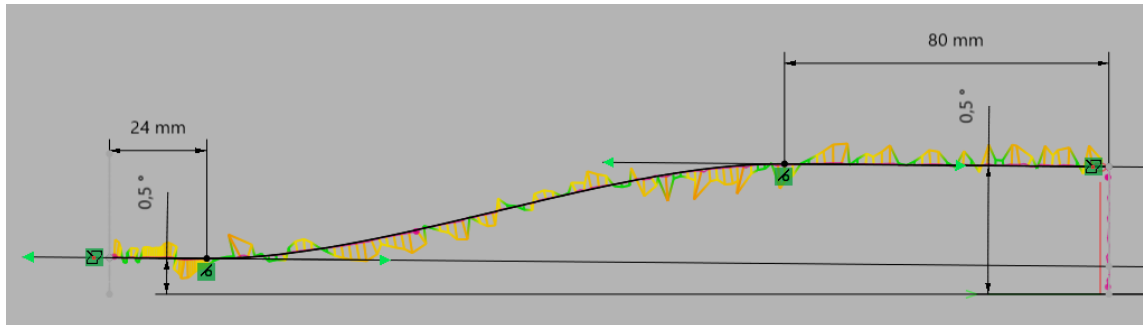

Figure 450
- Use **Smart Dimensions** to define the sketch as shown in **Figure 450**.